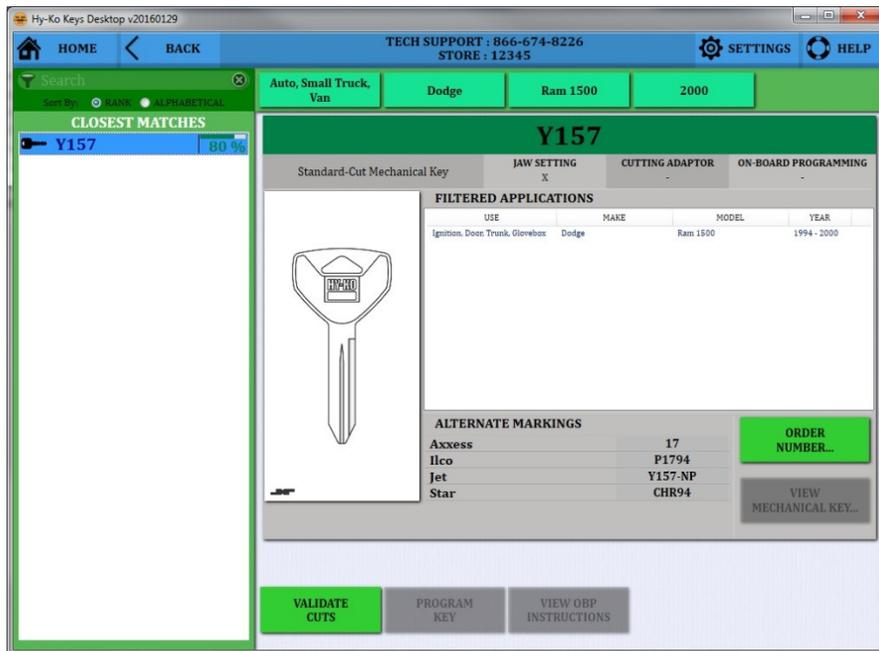

fig. 64
- Once you have completed cutting the key you can return to the Vision Box to validate the cuts on the new blank in relation to the customer's key (see fig. 64).